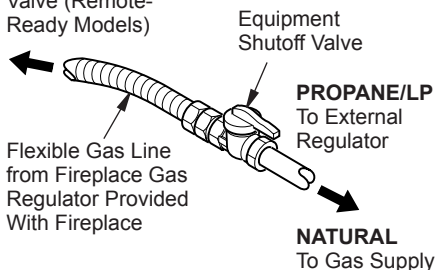

Figure 15 - Attaching Flexible Gas Line to Equipment Shutoff Valve
2. Apply pipe joint sealant lightly to male threads of gas connector attached to flexible gas line/equipment shutoff valve (see Figure 15).